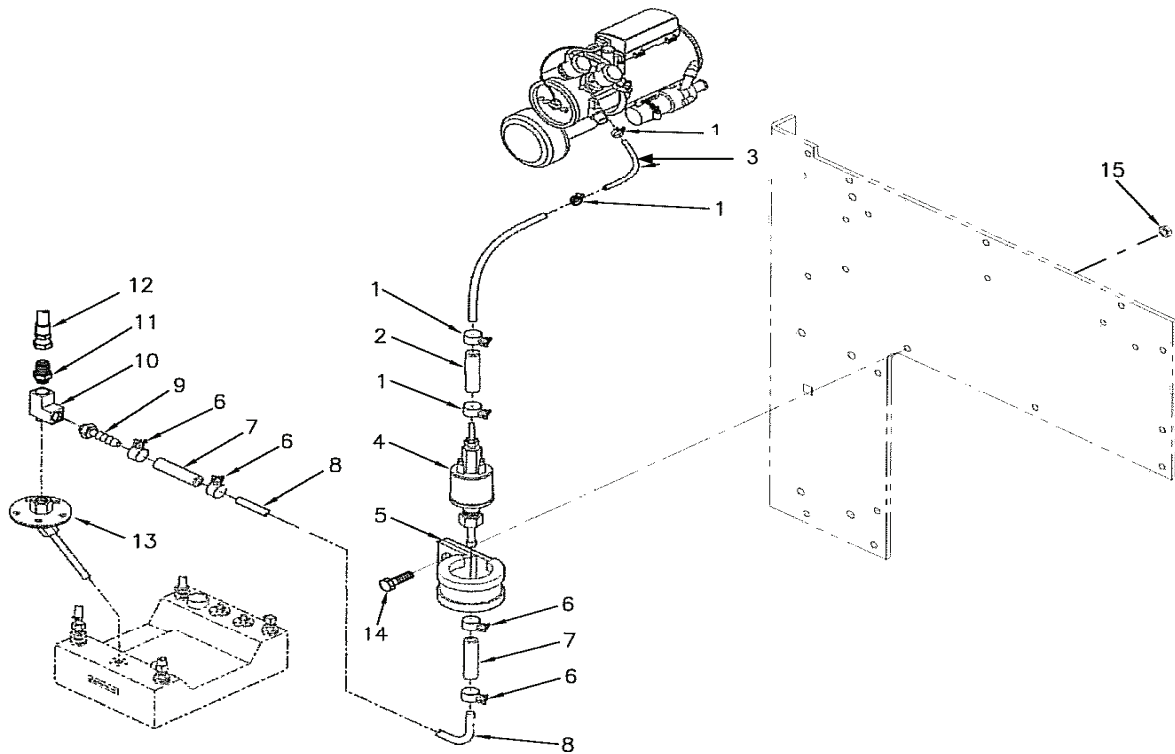

Figure 6-8. Fuel System Assembly.
- n. Disconnect generator fuel supply line (12, Figure 6-8) and adapter (11) from fuel pickup tube assembly (13). Attach tee (10) to fuel pickup tube assembly (13) re-attach generator fuel supply line (12) to top of tee (10) using adapter (11).